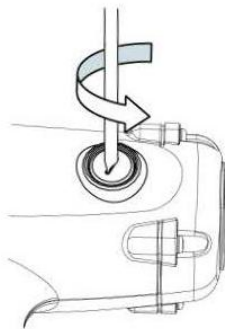

Fig.1
- Loose the carbon brush cover counterclockwise by using slitted bit. (Fig.1).